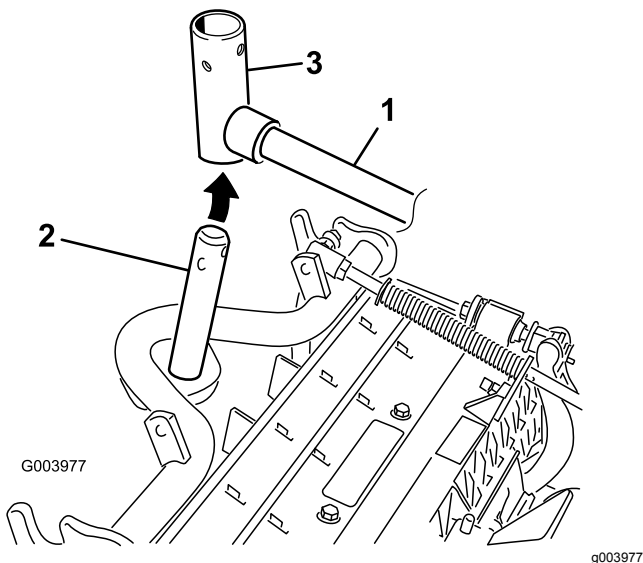

Figure 10
8. For the front cutting units, slide a cutting unit under the lift arm while inserting the carrier-frame shaft up into the lift-arm-pivot yoke (Figure 10).
B. Insert the lift-arm yoke onto the carrier-frame shaft (Figure 10).